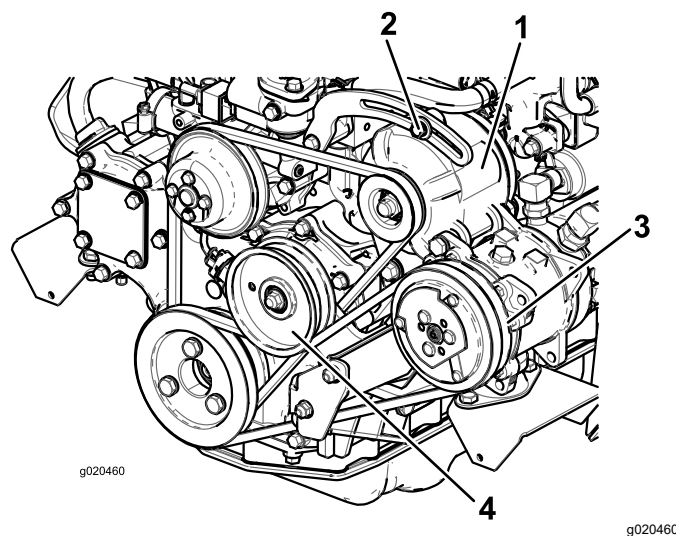

Figure 114
If the deflection is not 10 mm (3/8 inch), loosen the alternator-mounting bolts (Figure 114).
Check the condition and tension of the belt (Figure 114) after every 100 operating hours.
- If the deflection is not 10 mm (3/8 inch), loosen the idler pulley mounting bolt (Figure 114). Increase or decrease the compressor belt tension and tighten the bolt. Check the deflection of the belt again to ensure that the tension is correct.